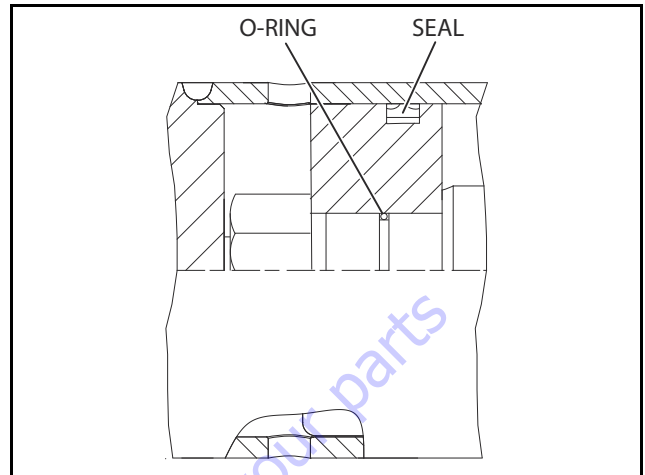

Figure 5-69. Piston Seal Kit Installation
8. Place a new o-ring in the inner piston diameter groove. (See Figure 5-69.)
9. Place new seals in the outer piston diameter groove. (A tube, with I.D. slightly larger than the O.D. of the piston is recommended to install the solid seal). (See Figure 5-69.).